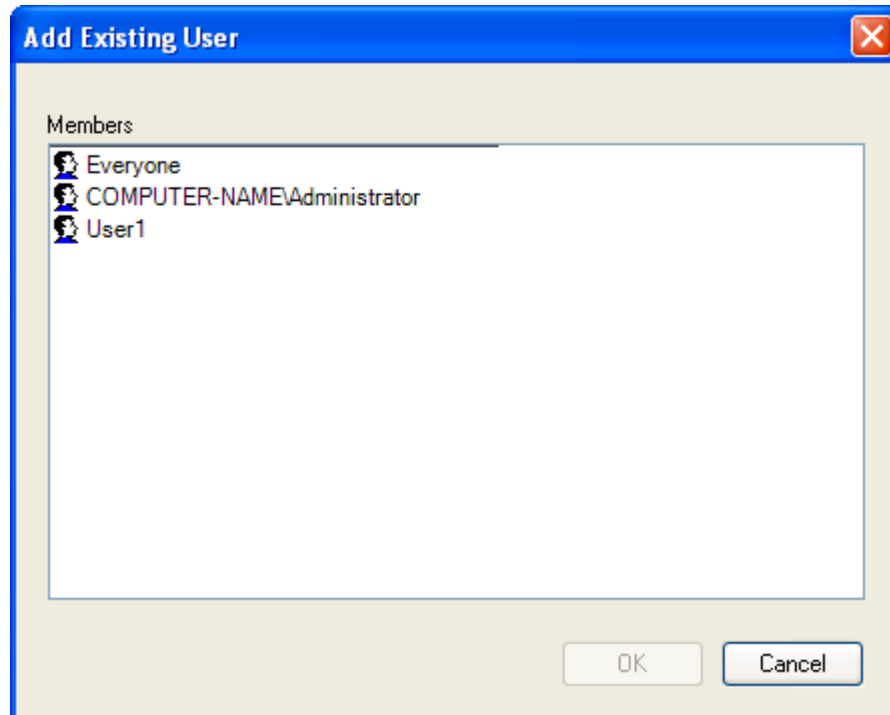

Figure 56 - Add Existing User Window
1. Click on the **Add** button. The **Add Existing User** window (Figure 56) appears.